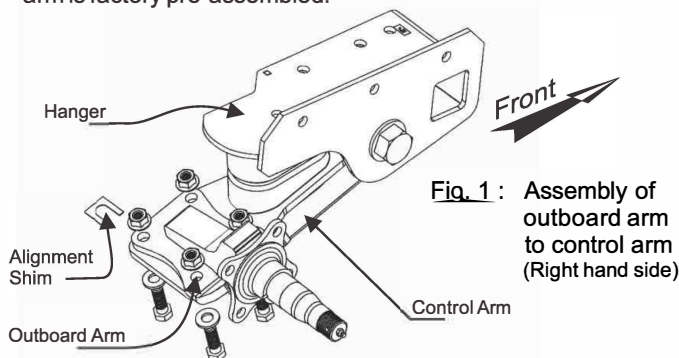

Fig. 1 : Assembly of outboard arm to control arm (Right hand side)
1. Install outboard arm on control arm using 4 bolts and washers and shims as required (verify that bolts are grade 8). Fig. 1 shows what the right hand side should look like; the left hand side is the mirror image. Torque fasteners to 90-95 ft-lbs (122-129 N.m). Skip this section if outboard arm is factory pre-assembled.